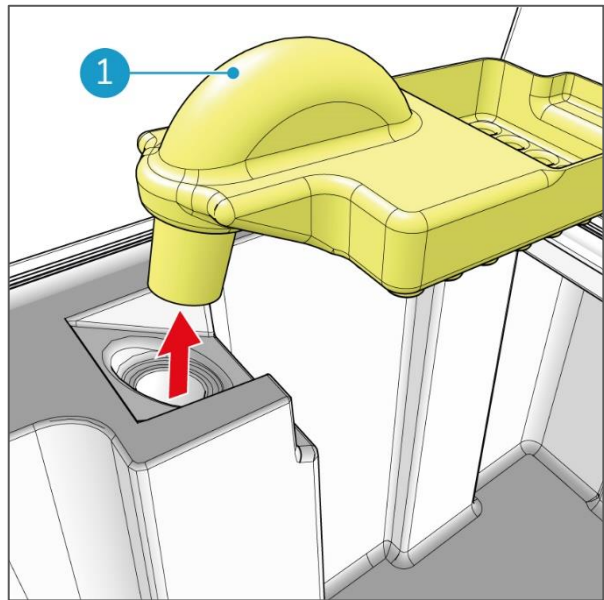

Figure 50
1. Remove the recovery water inlet (Figure 50, pos 1).